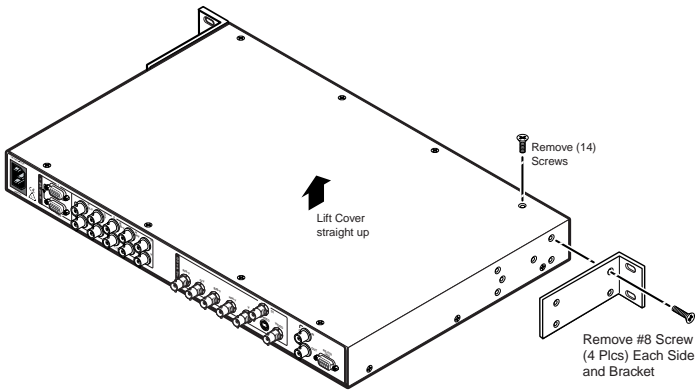

Figure 1 — Removing the VSC 900 cover
3. Remove 14 screws from the top and sides of the cover (figure 1) of the VSC 900. The VSC 700 has 12 top and side cover screws plus 9 rear panel screws and 2 jack screw nuts (RS-232/422 connector).